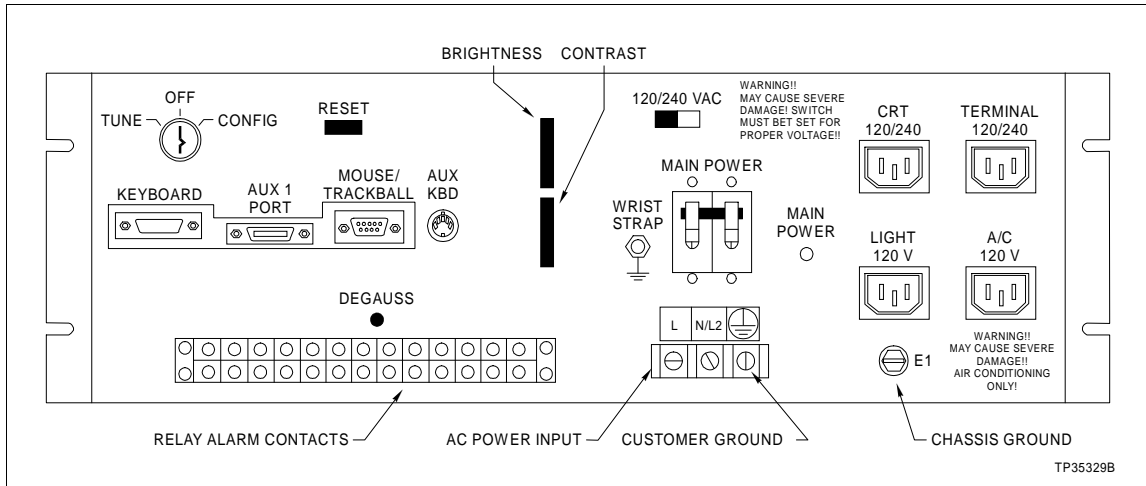

Figure 3-12. IIOIC423 Environmental Cabinet Power Entry Panel Connections
1. Wire AC power to the proper terminals of the power entry panel. Refer to Figure 3-12 for AC input terminal location.